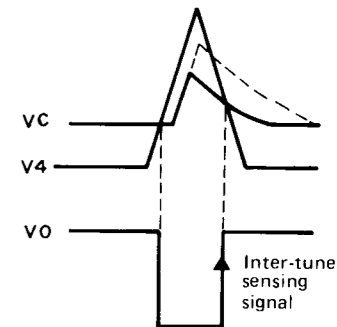

Fig. 5
6) A4 is a comparator with hysteresis, and it compares V4 and Vc, and makes the rise of its output Vo the inter-tune sensing signal. (Refer to Fig. 5)
Fig. 5 a. Inter-tune sensing signal